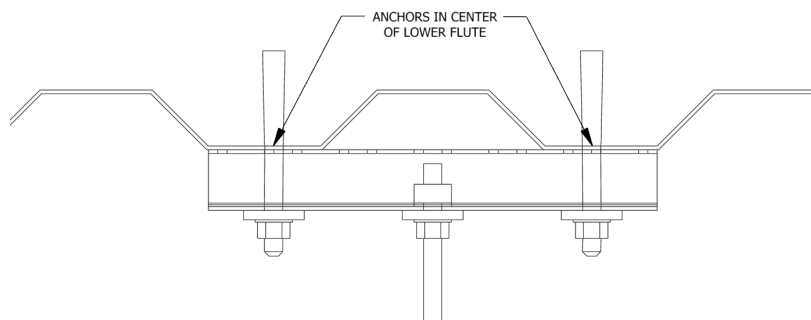

Figure 251: *Anchors Installed in Center of Lower Flute*
- When installing anchors into a steel over concrete pan deck, make sure anchors are placed in the center of the lower flute channels as shown in Figure 251.